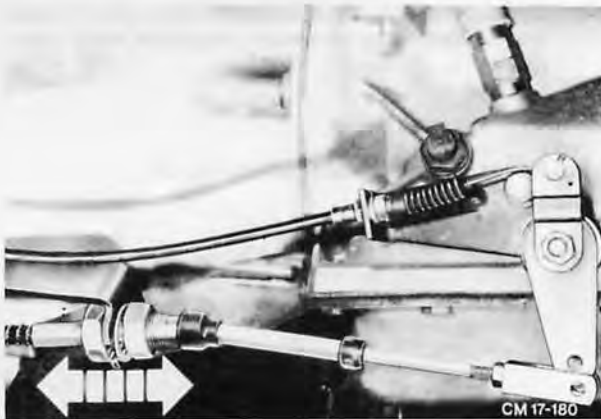

Fig. 56. Adjust cable
16. Fit selector cable to converter housing bracket and adjust cable in such a manner that split pin may be inserted into transmission lever **without strain**, Fig. 56. Tighten lock nut.